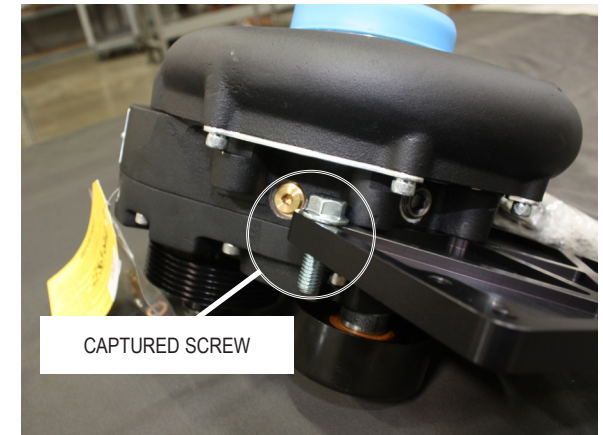

Fig. 3H
H. Check over the supercharger bracket assembly for loose screws & fittings. The captured screw previously mentioned will remain loose at this time (pictured in Fig. 3H). Place the previously removed grooved idler pulley & remaining OEM smooth idler pulley back onto their original locations (grooved idler beneath the alternator pulley, OEM smooth idler beneath the A/C compressor pulley) without the dust covers or screws. Using the belt routing diagram and photo as a guide, route the belt around the accessory pulleys as shown, leaving slack for the supercharger and its attached smooth flanged idler pulley. See Figs. 3I, 3J, 3K.